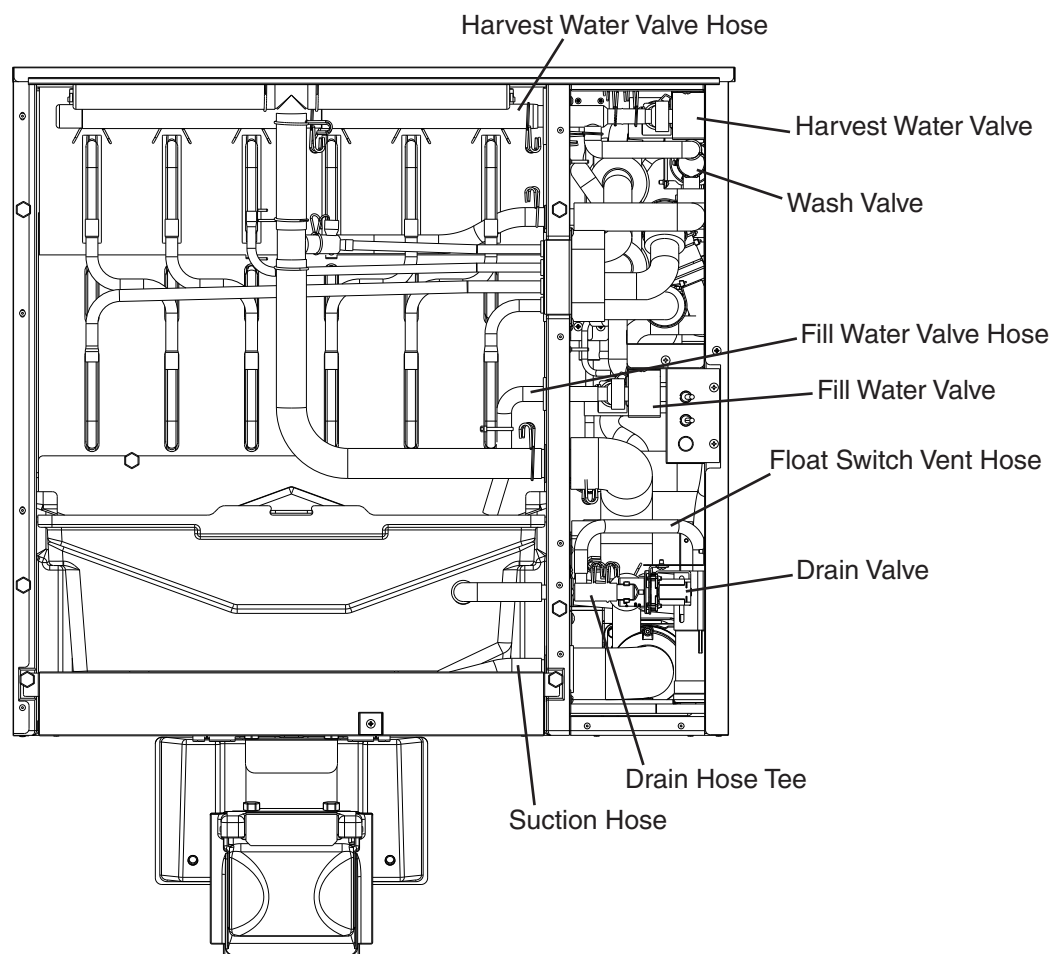

Fig. 23
- 7) Disconnect the harvest water valve hose in the evaporator section and blow out the water line to the harvest water valve using compressed air or carbon dioxide. See Fig. 23. This will clear water from the harvest water valve.